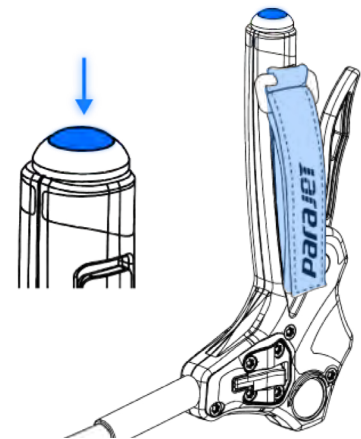

FIGURE 4.0
3. Making sure your thumb is lightly covering the kill switch (Figure 4.0), start the engine using the pull-start handle or by pressing the start button if your engine is fitted with an electric starter. Allow the engine run on idle for a couple of minutes without applying any throttle.